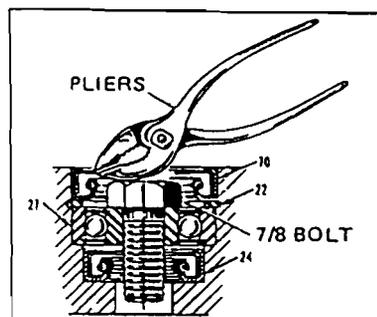

FIGURE 6
- Remove the grip spring locknut (10) from the upper end of the drive shaft. Use one of the following methods to hold the drive shaft from turning.
- XJ 30 thru 117 — Insert an Allen wrench (43) in the chuck screw.
- Remove the internal gear (30), the two grip spring sets (39), and the grip spring spacer (37).
- Remove the drive shaft, with the bearing inner ring (29) in place, through the lower opening of the housing.
- XJ 174 thru 350 only — Pry the oil seal (70) from the housing bore as shown in Figure 6.
- Insert a 7/8 bolt into the ball bearing (27) bore.
- Use the bolt head as a fulcrum and pry out the oil seal (70) with pliers.